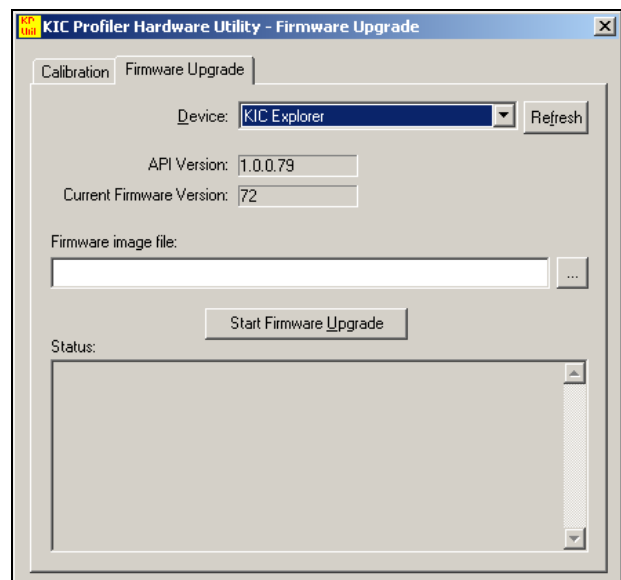

Figure 193: Hardware Utility – Firmware Upgrade
In order to view the current firmware version of your *KIC Explorer* profiler you will need to connect your *KIC Explorer* to the computer via the USB communication cable and launch the *KIC Profiler Hardware Utility* and then select the *Firmware Upgrade* tab to view the current Firmware version. See Figure 193. Also see details below.
**KIC Explorer Device** -If your *KIC Explorer* is on and connected the *KIC Profiler Hardware Utility* will display the *KIC Explorer* Device name. If the Device field is blank then no device is detected. Select the Refresh button to refresh the Device field. See Figure 193.
2. Open the *KIC Profiler Hardware Utility* software program or if already open select the Refresh button. See Figure 193.